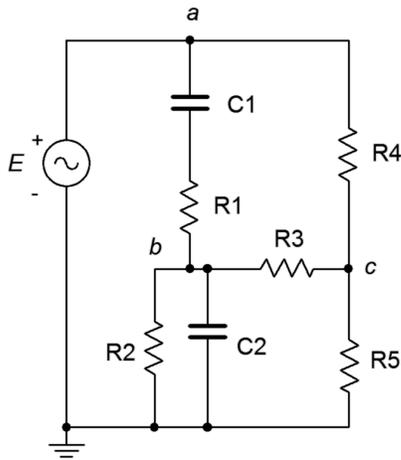

Figure 6.30
65. Find voltage  $v_{bc}$  in the circuit of Figure 6.30 using either mesh or nodal analysis.  $E = 100\angle 0^\circ$ ,  $R1 = R2 = 2\text{ k}\Omega$ ,  $R3 = 3\text{ k}\Omega$ ,  $R4 = 10\text{ k}\Omega$ ,  $R5 = 5\text{ k}\Omega$ ,  $X_{C1} = X_{C2} = -j2\text{ k}\Omega$ .